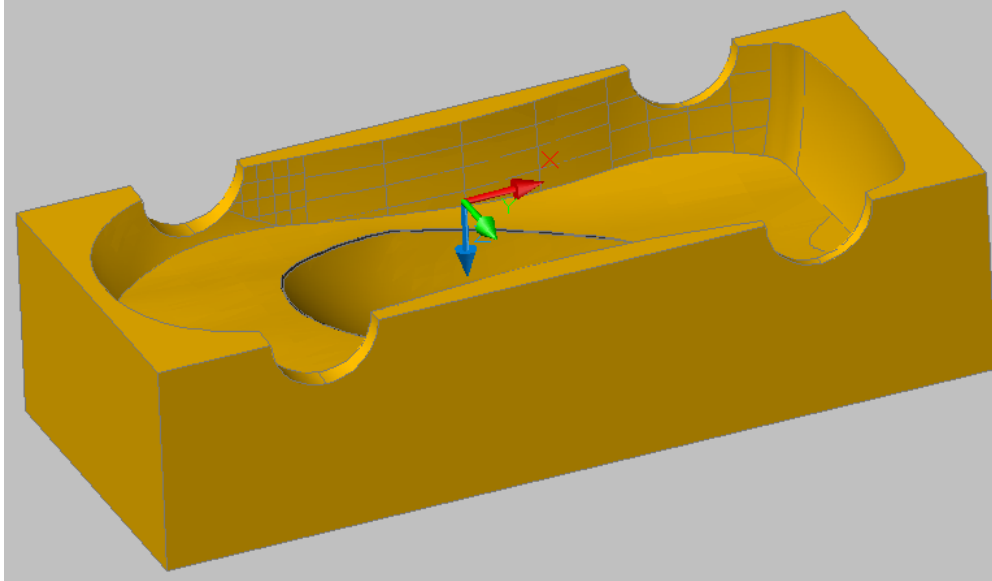

Figure 7
7. Read this step carefully before continuing. Turn the assembly over. **Copy** the Core side in the same location so that there are two core bodies. Then Subtract one of the cores from the Cavity side. Turn off the visibility of the Core layer and the Cavity should look like Figure 7.